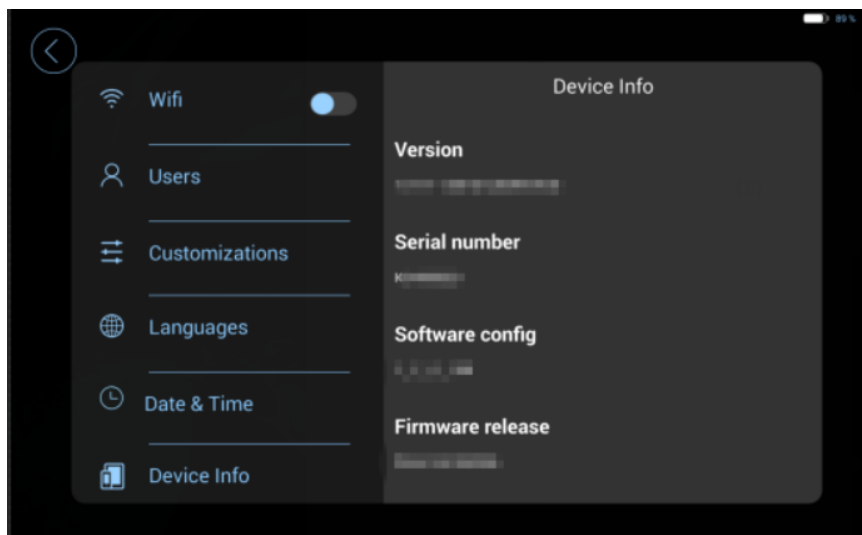

Figure 18. Device parameter information interface
18. Device Info: Device parameter information interface, you can view the device information (Figure 18).